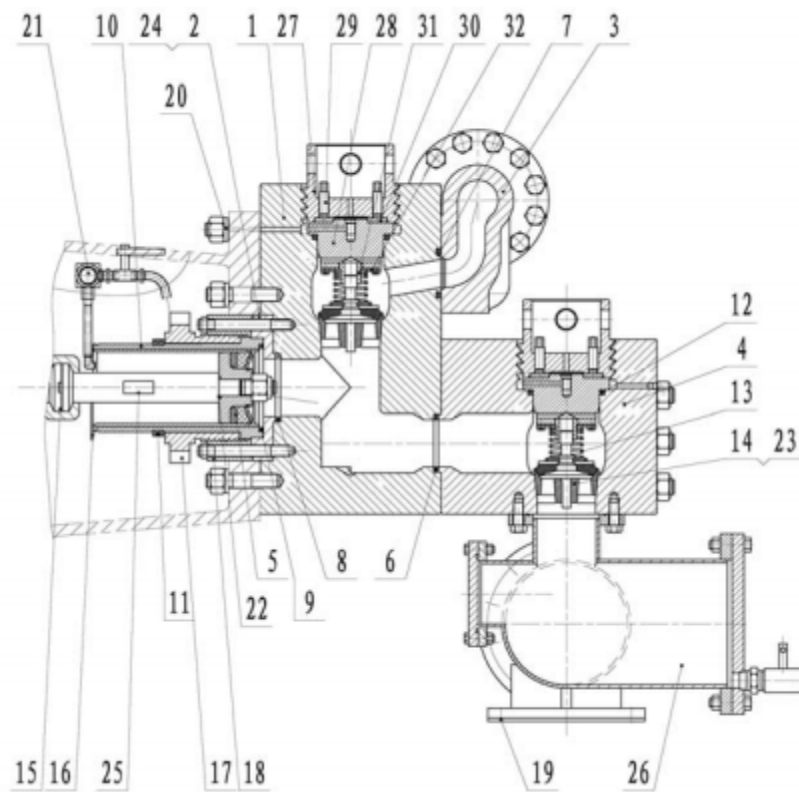

Fig. 9 Fluid End Assembly of F-1600HL Drilling Pump
Cross-section of fluid end of F-1600HL is shown in Fig. 9. Clean and assemble the components of fluid end as per the following methods.
The wear plate seal (8) is fitted into the counter bore of the discharge cylinder (see Figure 9). Install the wear plate (2) with the studs in place. And install the flange(18), in the assembly to make the starting point of the thread on the lower right corner, equivalent to the clock on the 5 o'clock position, with 566 N · m (420lbf · ft) torque tightening liner flange nuts.